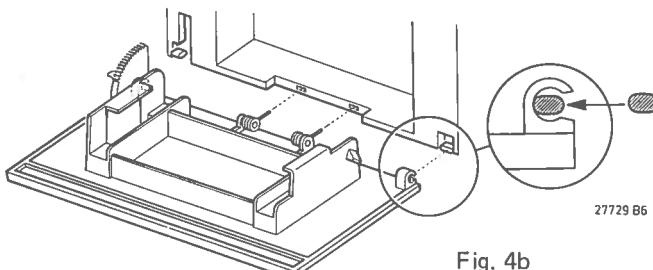

Fig. 4b
**4. Cassette lid placement (refer to Fig. 4b)**